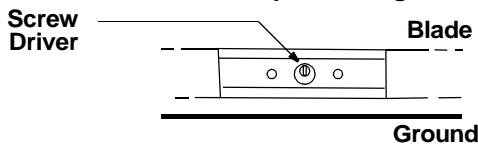

Figure 14
- The blade can be tested by balancing it on a round shaft screwdriver. See Figure 14. Remove metal from the heavy side until it balances evenly. It is recommended that the blade always be removed from the adapter for the best test of balance.